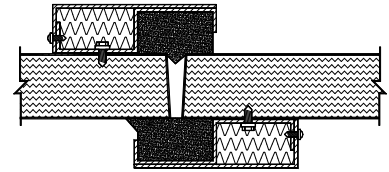

FIGURE 8
7. **Paired assemblies prepared for locks will be provided with a single or a double astragal assembly depending on the required rating (Fig. 8).** These are to be mounted and adjusted in a manner similar to the perimeter seals. The V-Seal astragal, when provided, is always mounted to the inactive leaf.